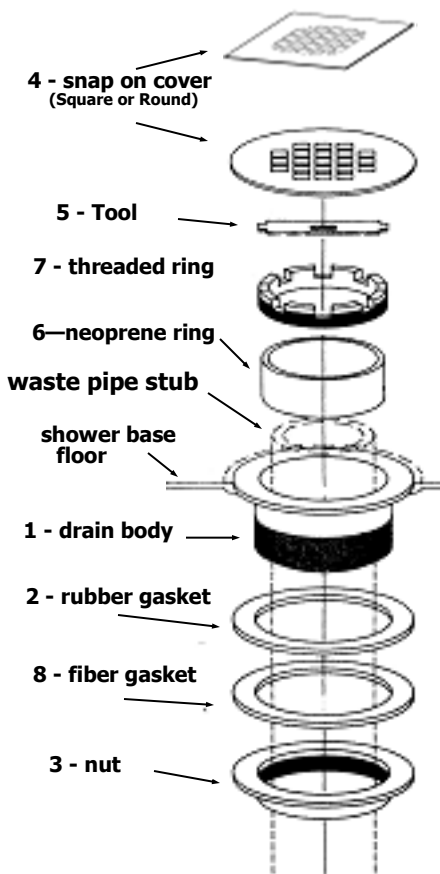

Figure 1
Note: Be sure the opening in the sub-floor or slab is a minimum of 5" (12" for Barrier Free bases) and the waste stub pipe is central with the opening and extends at least 1" above the floor (See figure 1). Bases with a 48" or greater dimension may require a larger opening in order for the base to sit properly on the sub-floor or slab.
3. Install the drain body (figure 1) on the shower base **before** installation as follows:
- a. Place the drain body (1) through the 3¼" hole in the shower base with the threads extending through the bottom side.
- c. Place the rubber gasket (2) over the threads so that the gasket rests flush against the bottom of the shower base.
Prepare the drain joint between the waste pipe and drain fitting as follows (see items in Figure 1):